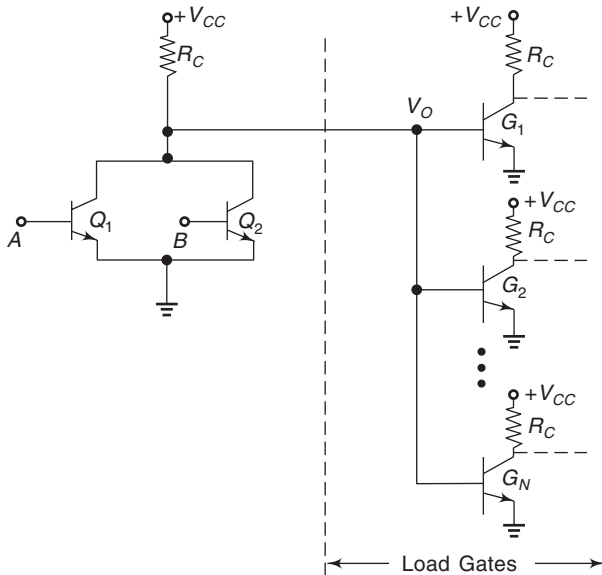

Fig. 9.44
28. Explain the operation of the DCTL gate shown in Fig. 9.44. What logic function does it perform?